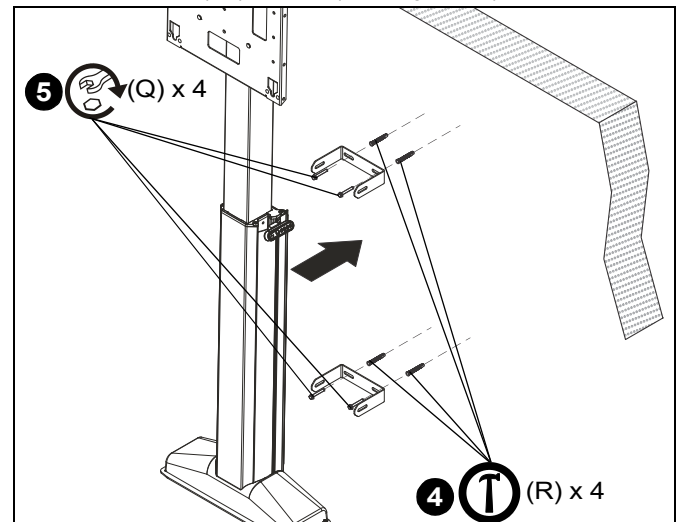

Figure 26
4. Install four concrete anchors (R) into drilled holes. (See Figure 26)
5. Use four 5/16 x 2 3/4" flange head screws (Q) to secure two wall brackets (B1) to wall. (See Figure 26)